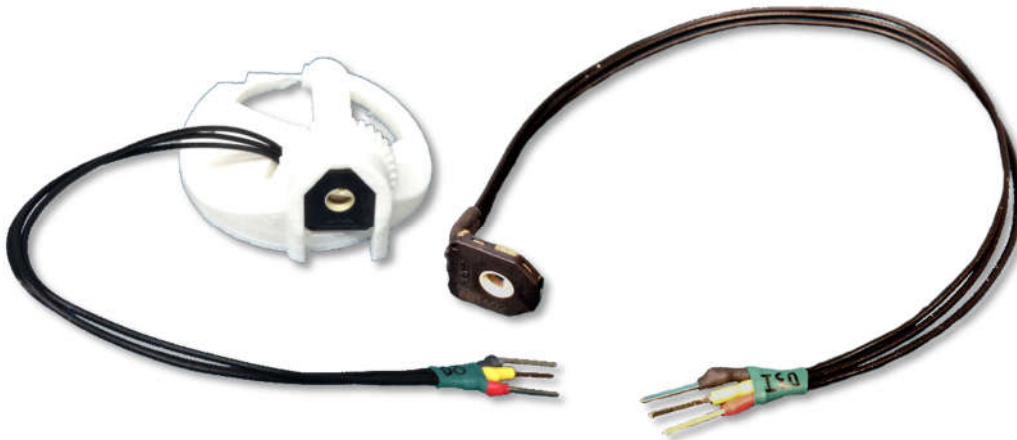

Figure 8: Finished potentiometers
**Note:** the straight pin headers for the D0 potentiometer must be soldered to the wires *after* the potentiometer is installed in MC – Geared Rotator, and the wires routed through the narrow channel. Black heat-shrink tubing near the potentiometer will not fit in this channel, so it is omitted. Figure 8 shows finished D0 and D3I potentiometers.